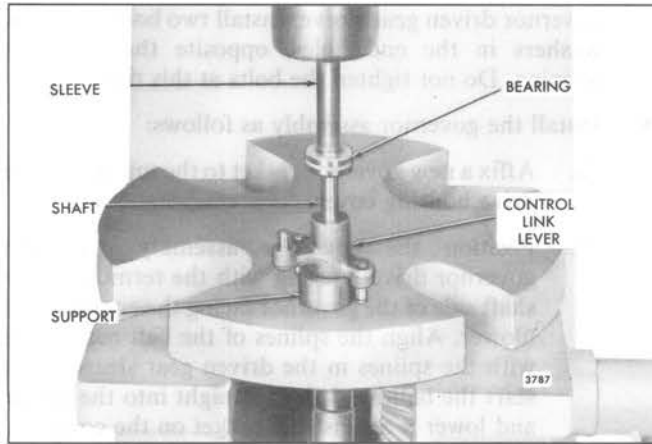

Fig. 19 – Installing Bearing on Governor Control Link Lever Shaft
- b. Support the control link lever, shaft and bearing assembly on the bed of an arbor press, with a spacer under the control link lever and shaft as shown in Fig. 19. Place a sleeve on top of the bearing inner race, then press the bearing tight against the control link lever.